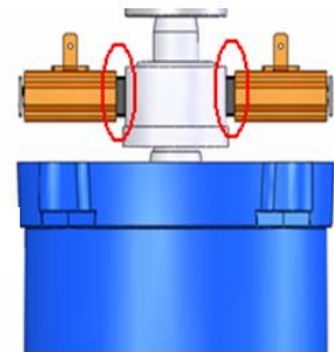

Fig. 23
- Make sure the carbon brush touch the motor rotor (Fig. 23)